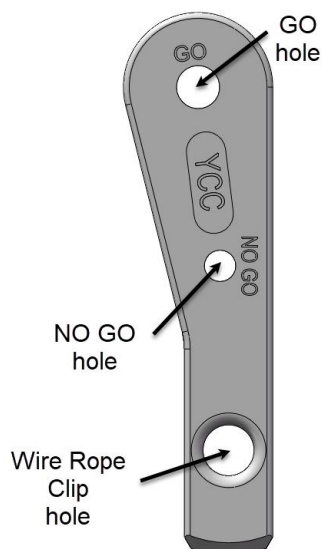

Figure 1
- Verify whether the wedge, socket and wire rope clip match to the wire rope size. In case of the long wedge sockets (G-6419 and G-6429) the correct wire rope size shall be verified using the "GO" and "NO GO" hole (see Figure 1);